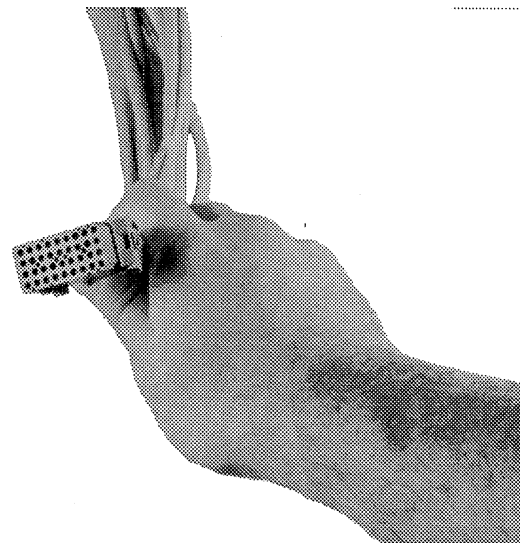

Figure 8. 36-pin trip unit connector.
1. The wiring harness includes a 36-pin connector, shown in Figure 8, that must be assembled and installed onto the trip unit mounting plate before the trip unit can be installed.